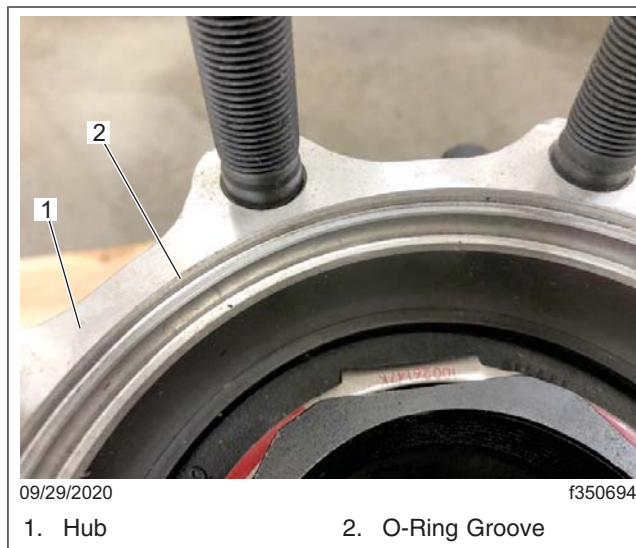

Fig. 1, O-Ring Groove Location
4. Locate the O-ring groove at the end of the hub. See **Fig. 1**.